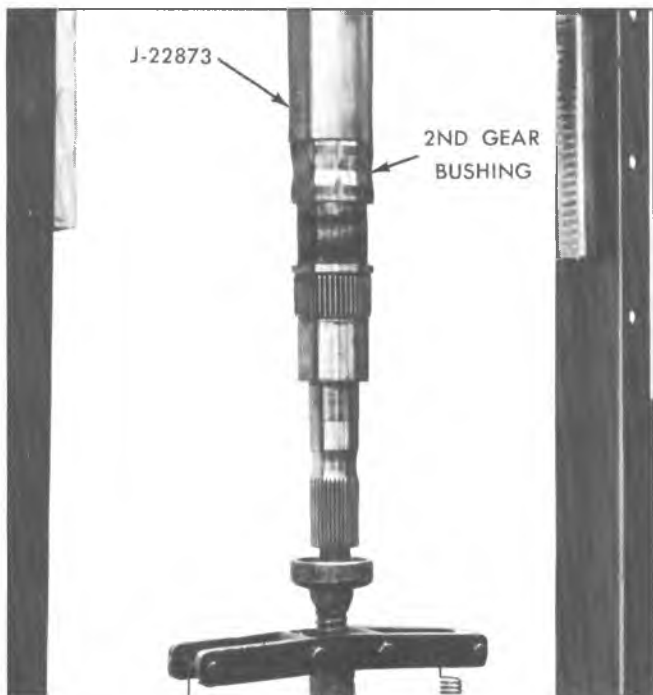

Fig. 16Q--Installing 2nd Speed Gear Bushing
1. Using Tool J-22873 press 2nd speed bushing onto mainshaft until it bottoms against shoulder (fig. 16Q).